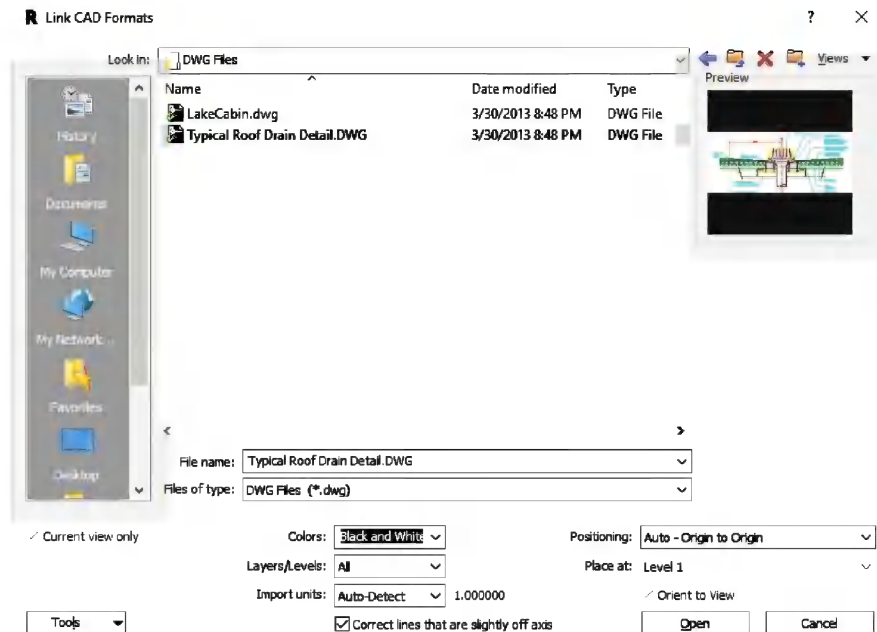

FIGURE 10-5.2 Linking an AutoCAD detail file
8. Set the *Colors* options to **Black and White** (Figure 10-5.2).